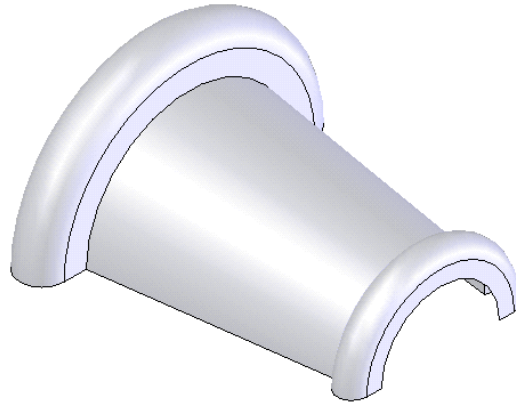

Figure 15-99 Base revolved surface
5. Choose the **OK** button from the **Surface-Revolve PropertyManager**. Figure 15-99 shows the base feature after revolving the sketch created on the **Front** plane.